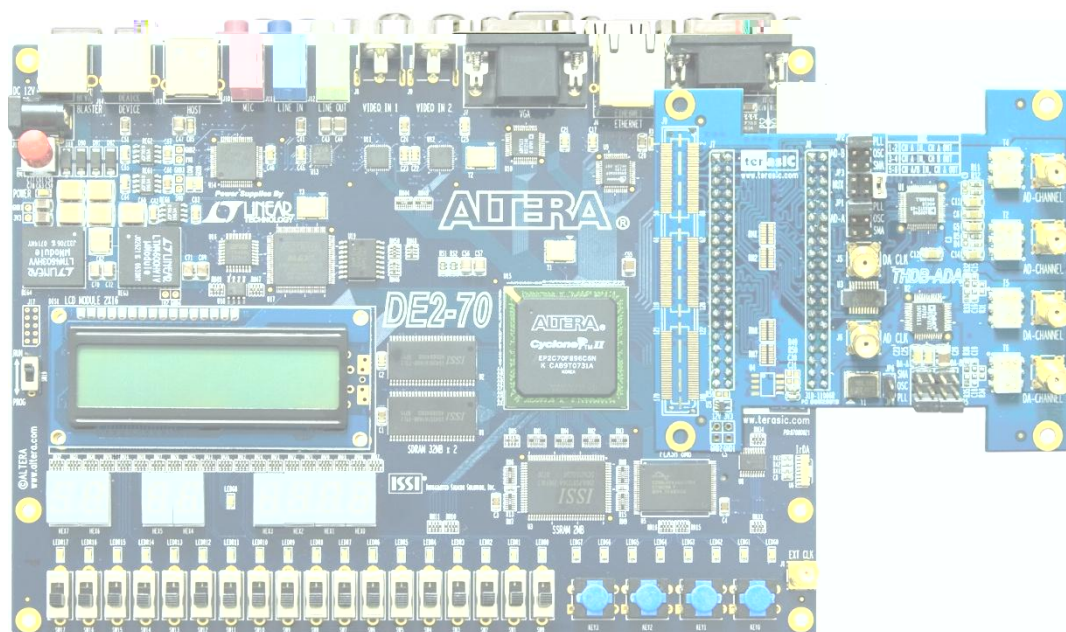

Figure 4-3 Connect ADA-GPIO with DE2-70
1. Connect the ADA-GPIO to DE2-70, as shown in **Figure 4-3**